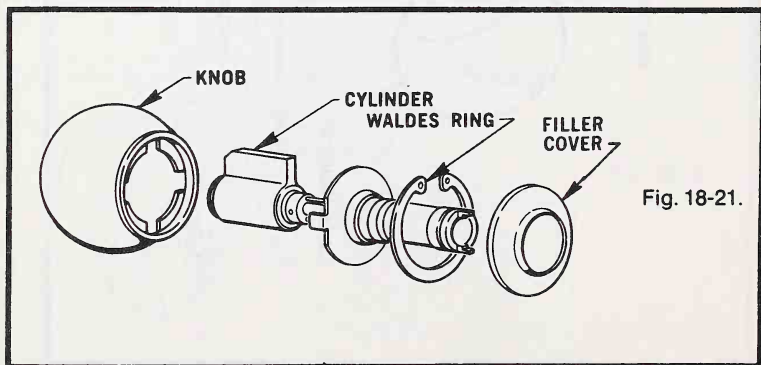

Fig. 18-21.
4. Reverse the procedure to reinstall. Be sure that the beveled edge of the Waldes ring faces away from the knob and that the ring is properly seated in the groove (Fig. 18-21).